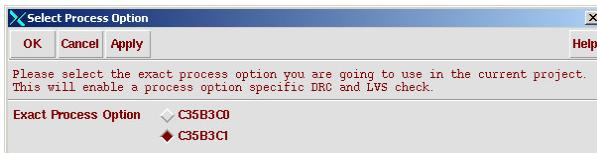

Figure 1. Select Process Option Window in Cadence
5. Look for the **Select Process Option** window as shown in Figure 1, select **C35B3C1**, then click **OK**.